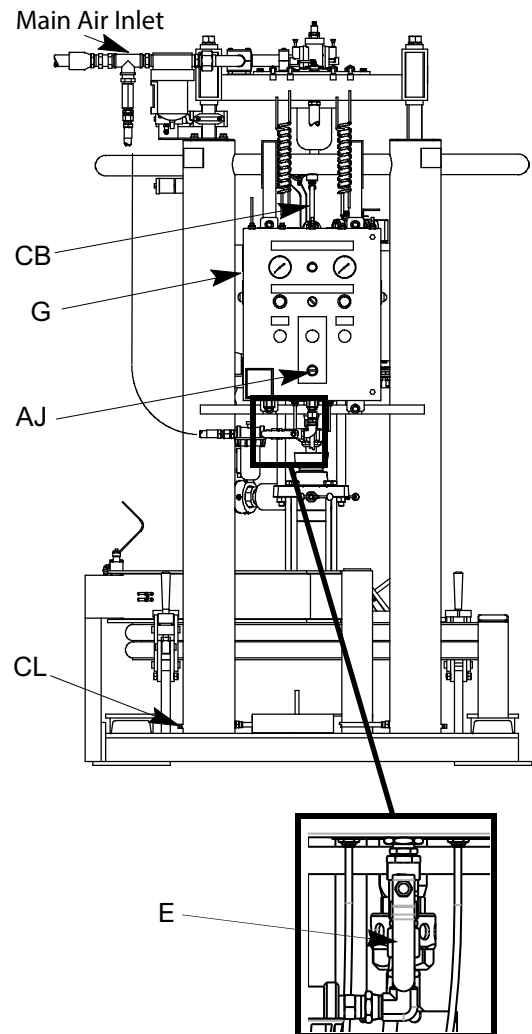

FIG. 11
At the Pneumatic Logic Panel (G) (FIG. 11), perform the following steps:
1. Close the Main Air Inlet Valve (E). See FIG. 11.
3. Once both safety hitch pins (806) are secured, turn off all air to the system by closing the Main Air Inlet Valve on the header (E) and follow your facility's pre-established lock-out/tag-out procedures. See FIG. 11 on page 29.
5. Being careful not to damage the Follower Plate (D) wipers, wipe or scrape any material buildup from the Follower Plate (D) and wipers, and properly dispose of the waste material.
6. Apply a generous amount of lubricant to the Follower Plate (D) wipers.
7. To place the ram back into operation, verify the RAM POSITION Switch (AJ) is still in the HOLD/NEUTRAL position, and open the Main Air Inlet Valve on the header (E).
8. Turn the RAM POSITION Switch (AJ) to RAISE, then press the RAM UP Pushbutton (AH) to move the ram to the fully raised position.
9. Remove both safety hitch pins (806).